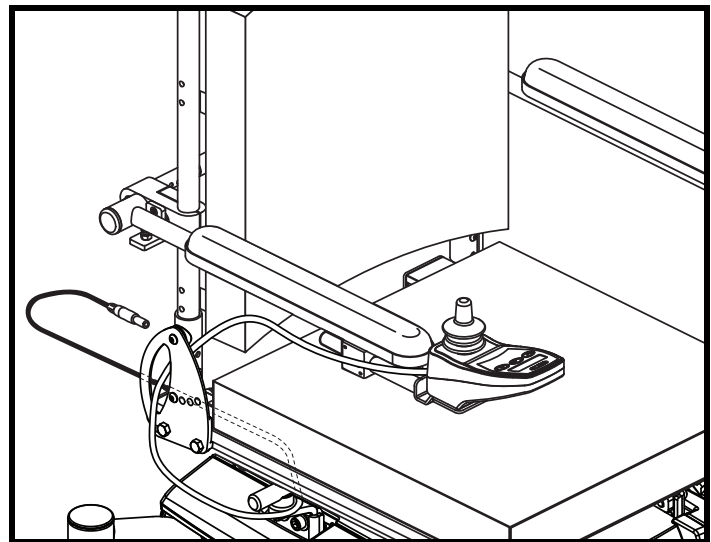

Figure 11. Controller Harness Routing on a Synergy Seat
4. Install the controller and route the harness to the back of the power base. See figure 11 or 12.